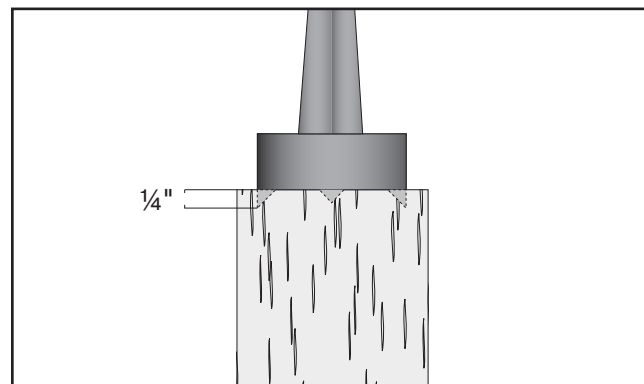

Figure 75. Spur center properly embedded.
6. Drive spur center into end center mark of workpiece with wood mallet to embed center at least 1/4" into workpiece, as shown in **Figure 75**.